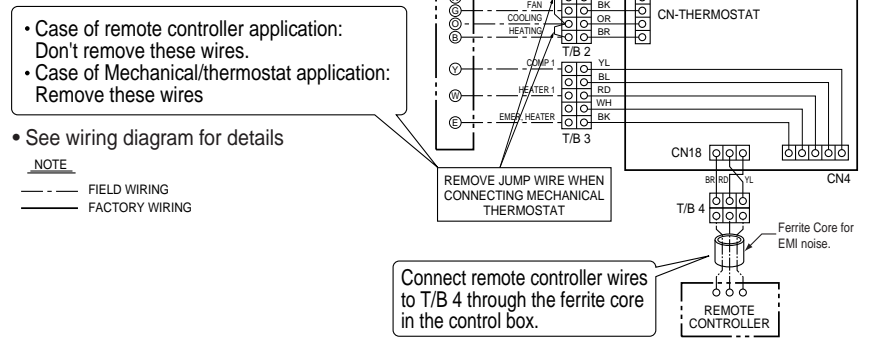

Figure 5D
■ Heat pump - 1 Comp, 1 Heater(Figure 5D)